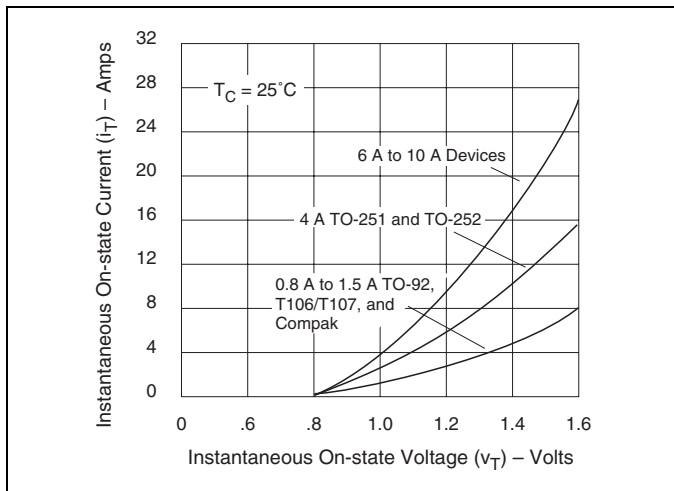

Figure E5.11 Instantaneous On-state Current versus On-state Voltage (Typical)
- (3) See Figure E5.11 for instantaneous on-state current (IT) versus on-state voltage (VT) TYP.